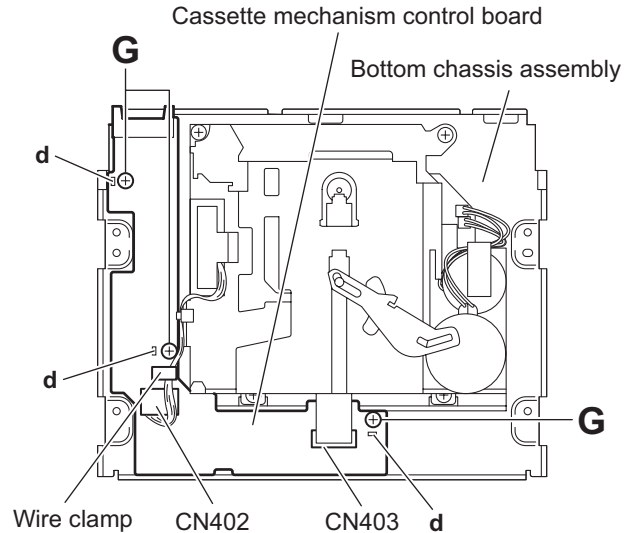

Fig.6
3.1.5 Removing the cassette mechanism control board (See Fig.6)